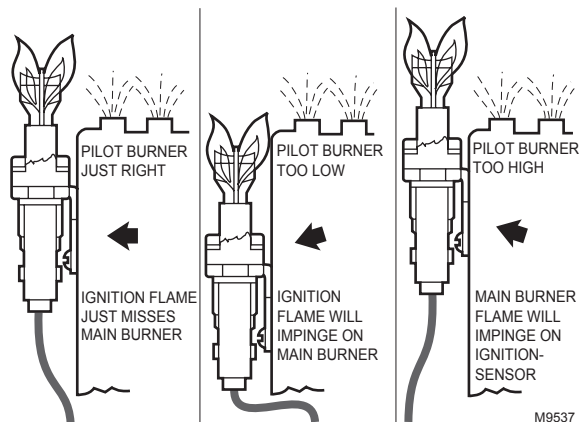

Fig. 6. Location of pilot burner.
3. Mount the pilot burner so the pilot flame remains properly positioned with respect to the main burner flame. See Fig. 6.